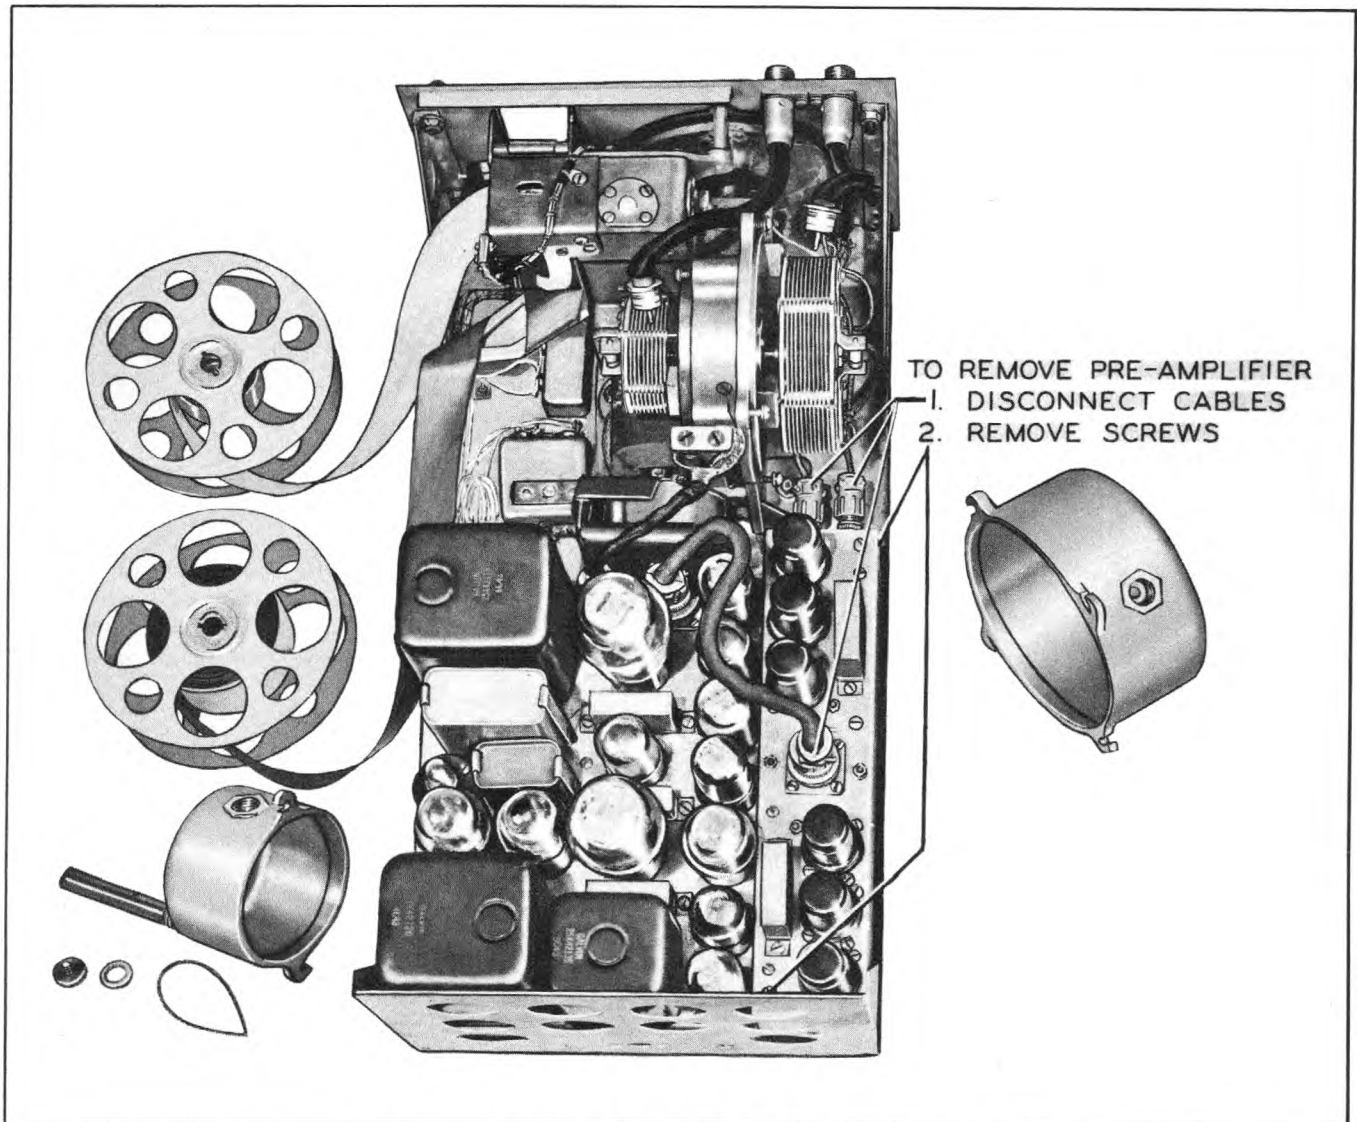

Figure 5-2. Radar Receiver R-34/APR-2—Top View with Dust Cover, Butterfly Tuner Shields and Tape Reels Removed
a. Remove tape-reel mounting screw and slide off both reels from the shaft. (See fig. 5-2.)